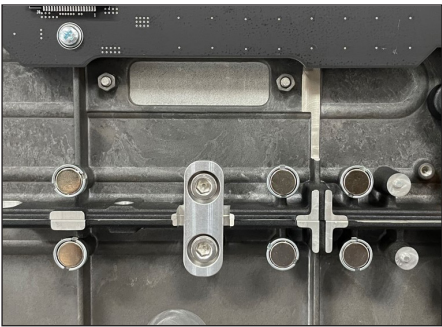

Figure 24: Assembled Panels
- 10. Install flattening hardware. Refer to **Figure 24**, **Figure 25**, and **Figure 26**.